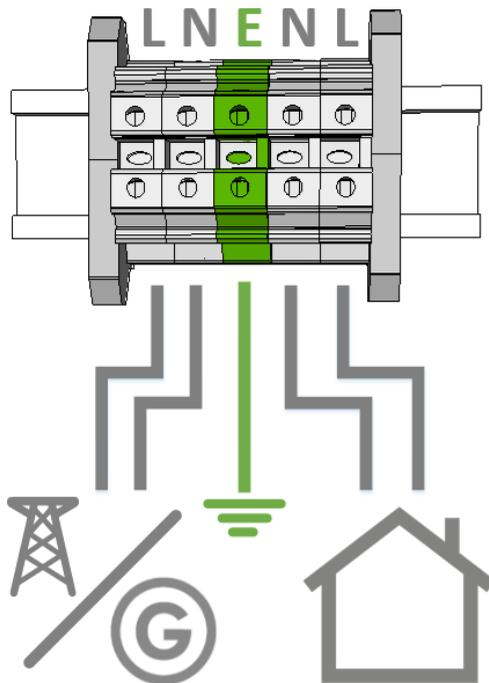

Figure 4: AC Input/output Connections on the Oasis
3. If you are installing a generator, make sure it is switched off and any 'Automatic starting' circuitry is disabled before continuing. Referring to Figure 4, bring 10mm2 for the 5kVA model, and 16mm2 for the 8kVA and 10kVA models, cables into the 'Generator' terminals of the Oasis. Take care to connect the live wire to the 'L' terminal and the neutral wire to the 'N' terminal. Connecting the generator incorrectly could cause damage to the unit.